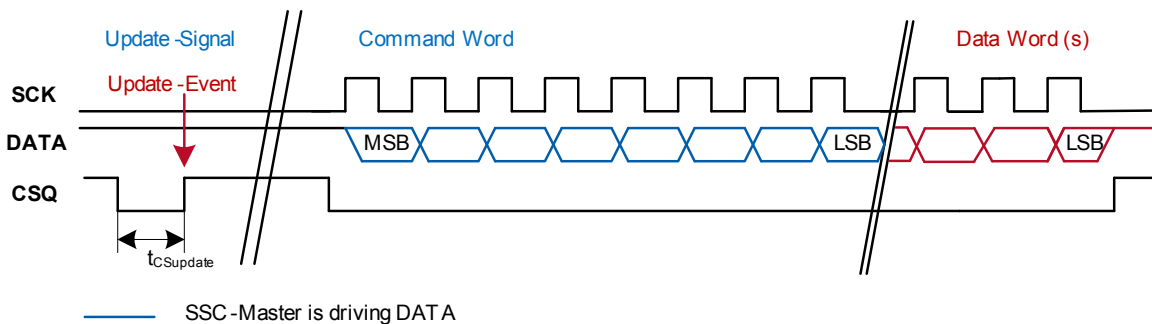

Figure 22 Update of update registers
- Every access to the TLE5012B with the number of data (ND)  $\geq 1$  is performed with address auto-increment.
- At a rising edge of CSQ without a preceding data transfer (no SCK pulse), the update registers are updated with according values (Figure 22).